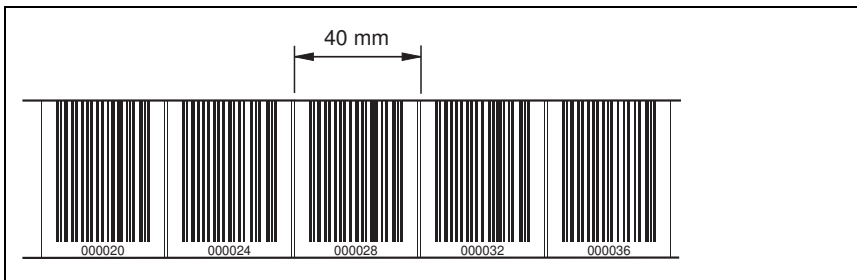

Figure 6.10: Checking the print results of the BCT repair kit
3. Verify the printing result by measuring the distance between two codes (see figure 6.10).